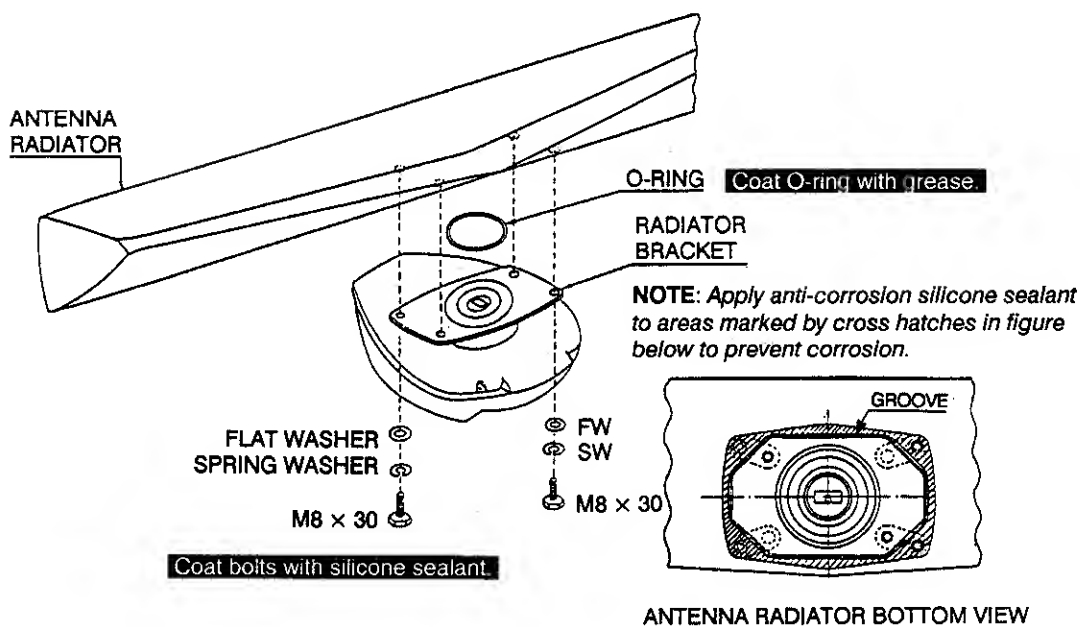
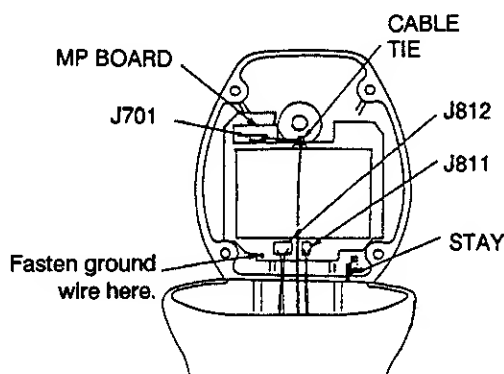

Figure 5-6 Fastening the radiator to the radiator bracket
Figure 5-7 Scanner unit, cover opened
- 3) Now is the time to fix the radiator to the radiator bracket. Remove the red rubber cap on the radiator bracket and orient the radiator bracket as shown in Figure 5-6. Referring to Figure 5-7, apply grease to the O-ring and set it to the center of the radiator bracket. Coat the radiator fixing bolts with silicone sealant. Fasten the radiator to the radiator bracket with the FURUNO logo on the radiator facing ship's bow.
- 4) Open the scanner housing cover and fix the stay as shown in Figure 5-7.
- 5) One end of the cable with 15-, 9- and 7-way plugs has already been connected to RTB-9100 inside the scanner housing. Mate the 15- and 9-way plugs with jacks J812 and J811 on the transceiver module, respectively. Connect the 7-way plug to jack J701 on the MP Board. Secure the cable between RTB-9100 and J701 with the cable tie as shown in Figure 5-7.
- 6) Fasten the ground wire (black) of the signal cable to the chassis as shown in Figure 5-7.